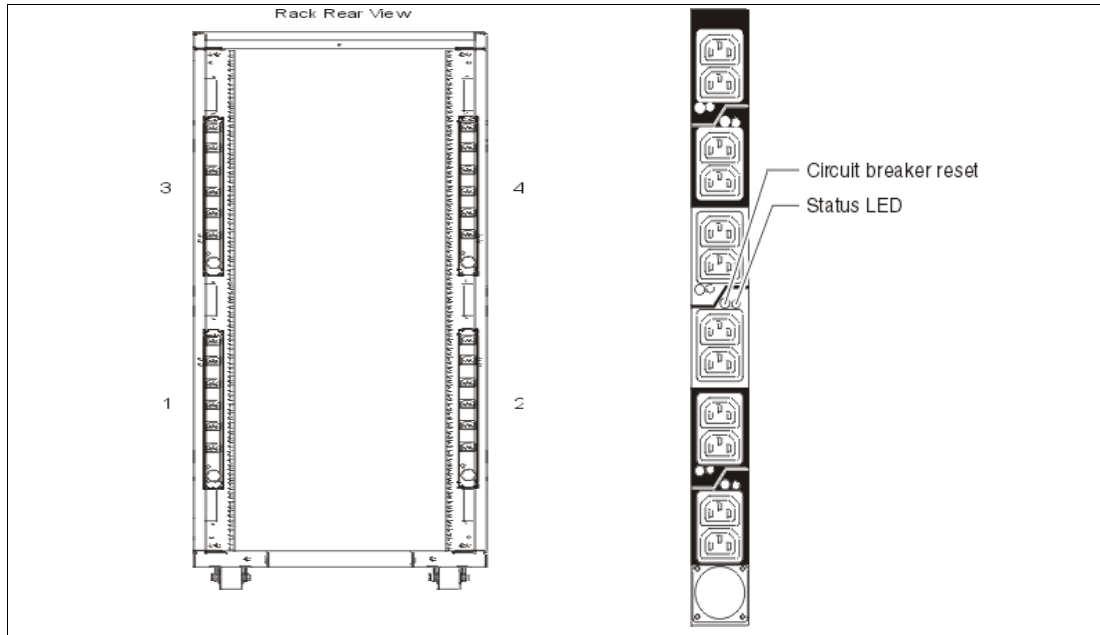

Figure 1-5 PDU placement and PDU view
- ▶ Up to four Power Distribution Units (PDUs) can be mounted in the PDU bays (see Figure 1-5 on page 13), but others can fit inside the rack. See "AC Power Distribution Unit and rack content" on page 12.
Four PDUs can be mounted vertically in the 7014 racks. Figure 1-5 lists placement of the four vertically mounted PDUs. In the rear of the rack, two additional PDUs can be installed horizontally in the T00 and three in the T42 rack. The four vertical mounting locations will be filled first. Mounting PDUs horizontally consumes 1U per PDU and reduces the space available for other racked components. When mounting PDUs horizontally, it is recommended that fillers be used in the EIA units occupied by these PDUs to facilitate proper air-flow and ventilation in the rack.